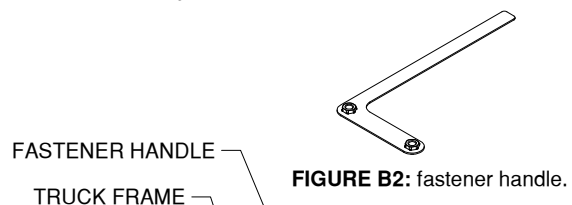
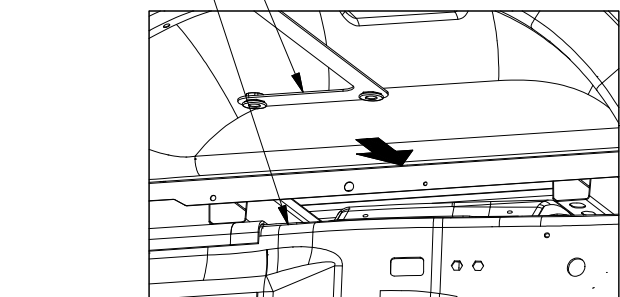
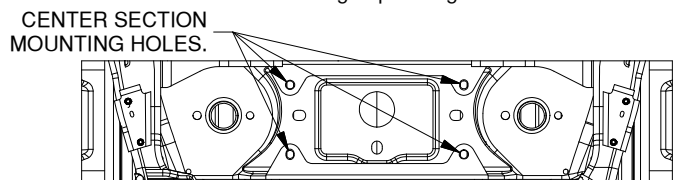

FIGURE B2: fastener handle.
FIGURE B3: Looking at passenger side wheel well.
FIGURE B4: Looking up at frame crossmember under truck
2. **Install fastener handles:** Place the fastener handles, see Figure B2, between the frame cross member and the bed, see Figure B3. Use the handle to guide the welded nuts into place. Make sure that the two nuts are directly over the holes in the frame, see Figure B4.